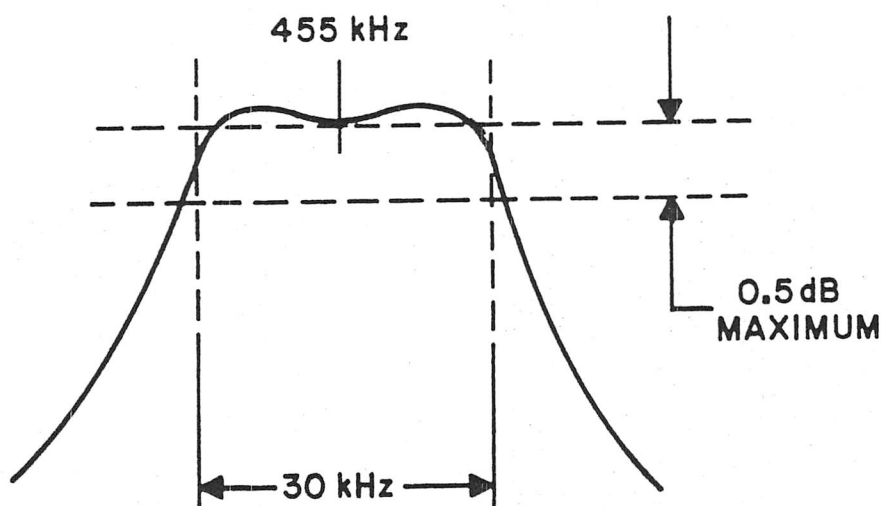

Figure 4-7. Amplifier/Mixer Alignment Bandpass Response
5. Adjust inductors A1L2 and A1L3 to produce bandpass response shown in Figure 4-7.